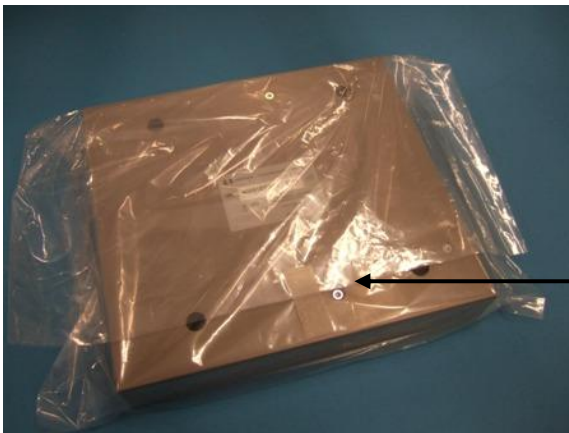

Fig 11
1. Place unit into large plastic bag (4) and secure using scotch tape (2) as per fig 11.